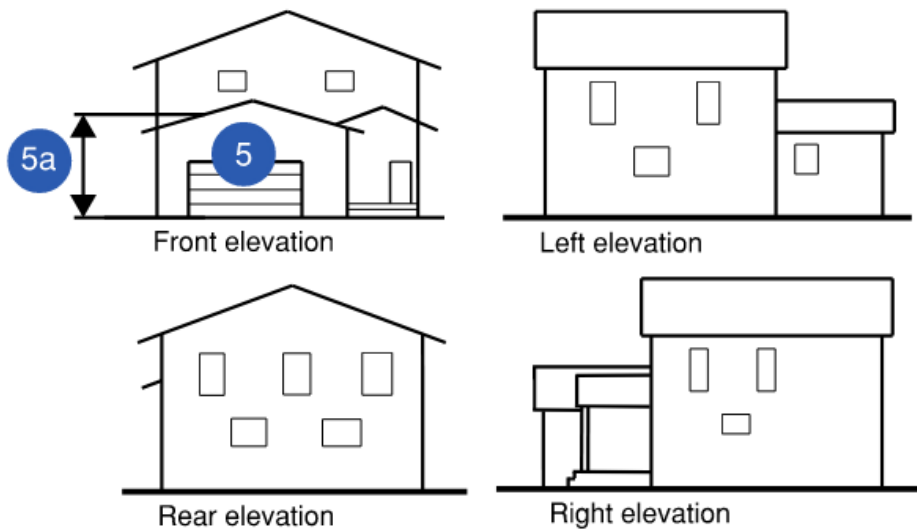

Figure 1 - Sample Garage Floor Plan & Elevations
☐ Architectural Drawings (see Figure 1)
- Building height (see Figure 1): _____